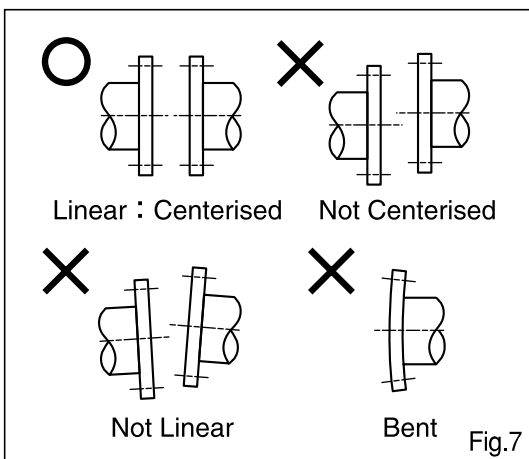

Fig.7
■ **Installation works** : To avoid leakage, avoid flange damage, crack, not center, not parallel etc. (Fig.7)